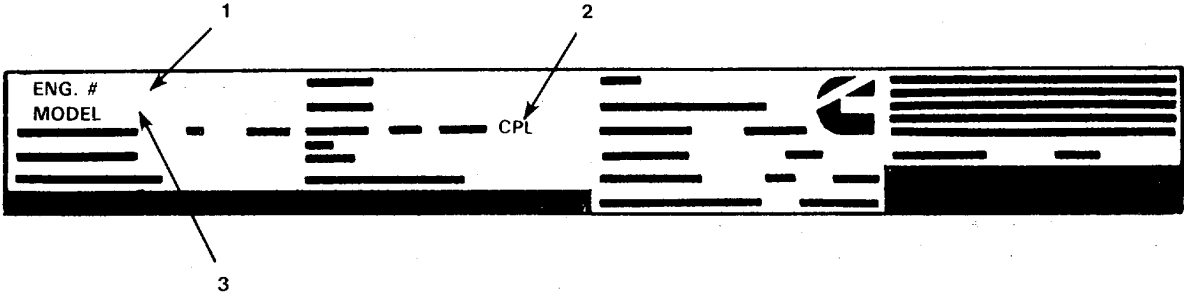

FIGURE 1-3. Dataplate Information to Record.
b. Serial Number and Control Parts List. Always record the serial number (1) of the engine, the CPL number (2), and the engine model number (3) on all orders for parts. This information is important for fuel pump calibration and correct identification of parts (FIGURE 1-3).